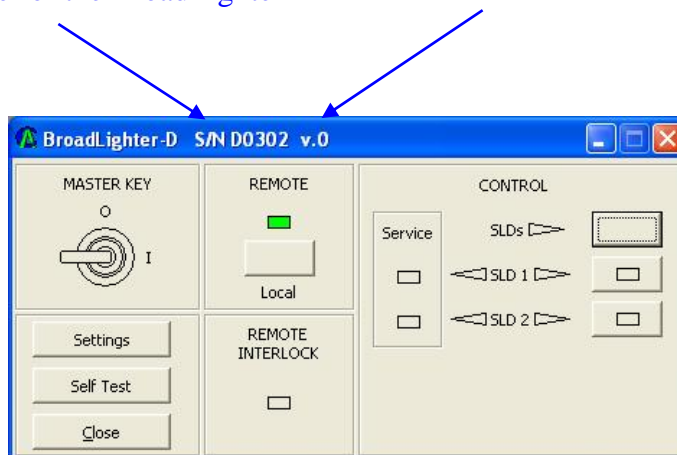

FIGURE 4.3 Example of the Program Window.
3. From the drop-down list, select the name of the COM port to which the BroadLighter has been connected and then click on the OK button. The program window like that shown in Figure 4.3 will appear on the screen of your computer, indicating that the BroadLighter is now under remote control. Note that in addition to the features and functions necessary to control your BroadLighter, the program shows the number of the firmware version (which is being used in your BroadLighter) and the serial number of the instrument.
The features shown in Figure 4.3 are used to do the following:
Once the program has been run (see the previous section on how to do this), the window of the program as shown in Figure 4.3 will appear on the screen of your computer. As you can see from the figure, the features in the program window are grouped and arranged exactly the same as those on the front panel of the BroadLighter.